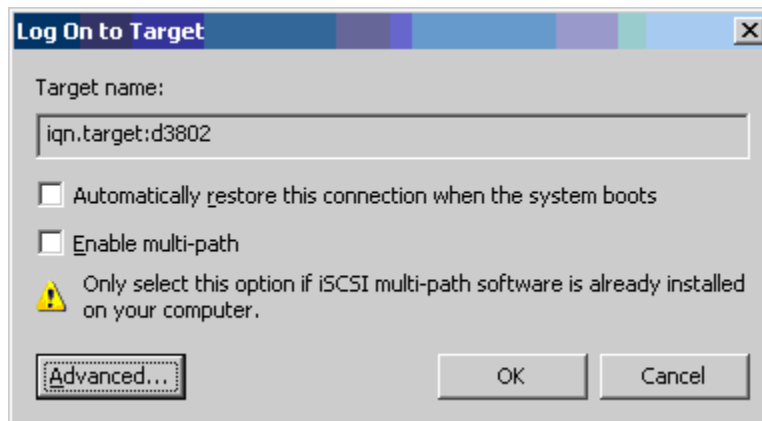

Figure 11-14. Log On to Target
- On the Log On To Target dialog box (Figure 11-14), click **Advanced**.